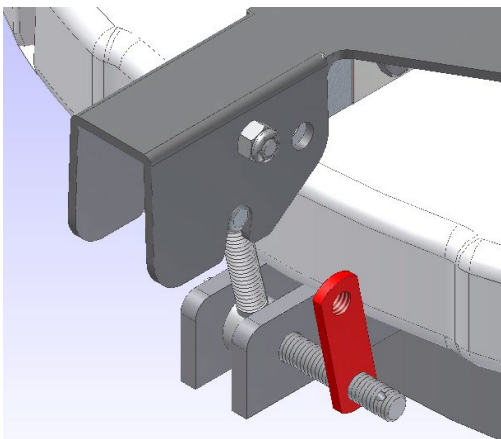

Figure 1
3. Thread the red dual tapped weld nut on to the bolt with the raised side of the weld nut facing toward the latch bracket. The raised area will go into the bolt hole on car's latch tab. Position the weld nut as vertically as possible. See Figure 1.